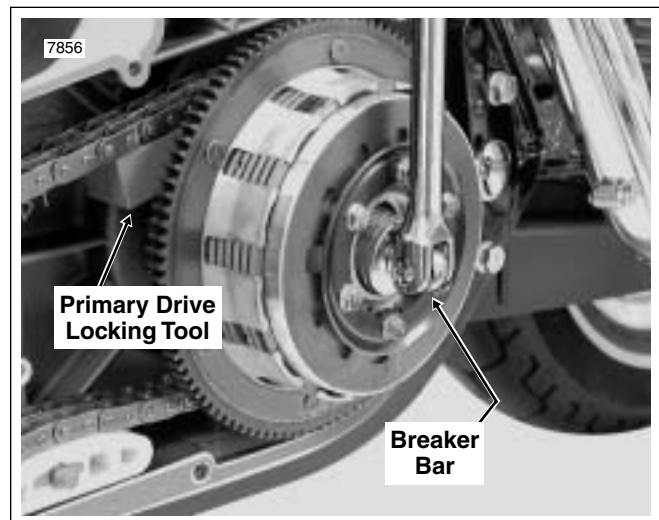

Figure 6-20. Place Primary Drive Locking Tool and Loosen Clutch Hub Mainshaft Nut
12. Reverse the position of the primary drive locking tool. With the flat side against the upper strand of the primary chain, insert stepped side of tool into teeth of clutch sprocket. Using a breaker bar and 1-3/16 inch socket, turn the clutch hub mainshaft nut in a clockwise direction until loose. See Figure 6-20.